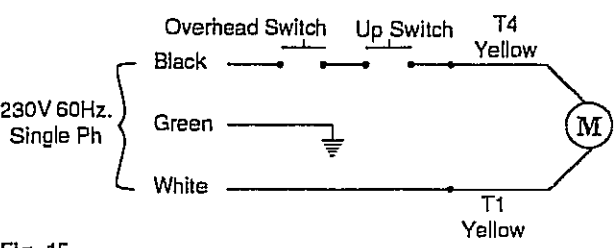

Fig. 15
13. Overhead switch: Check overhead switch assembly to assure that switch bar is depressing switch plunger sufficiently to actuate the switch. The overhead switch is wired normally open, see Fig 15. Lift will not operate until weight of switch bar is depressing switch plunger.
14. Electrical: Have a certified electrician run 208-230 volt single phase 60Hz. power supply to motor Fig. 15&16. Size wire for 25 amp circuit. See Motor Operating Data Table.